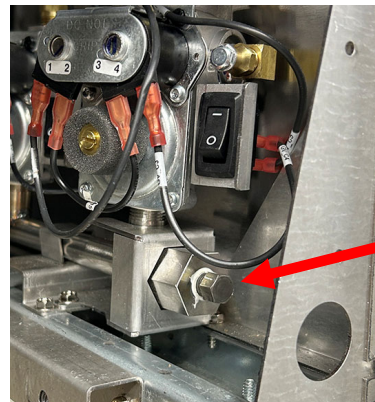

Figure 25
- 21) Attach a manometer to the inlet tap (see Figure 25).